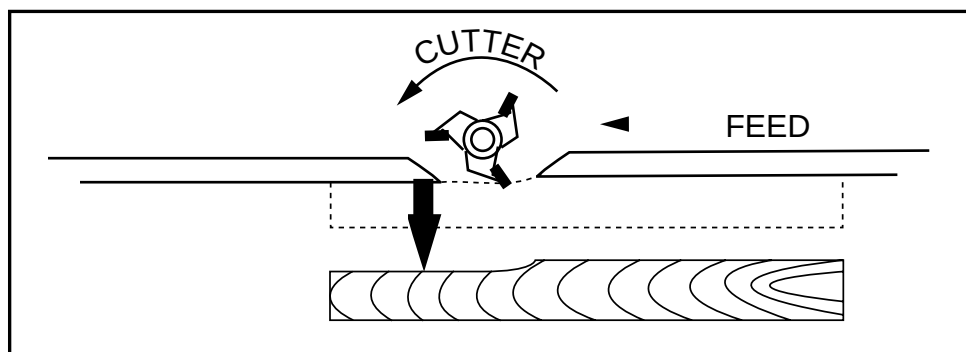

Figure 8
15. **STOCK FEED.** Always feed stock opposite the direction of the cutter rotation. For example, if the cutter rotation is counterclockwise, feed from right to left. **NEVER** back stock out of the cutter along the fence, once the cut has been started. Instead, pull the stock straight back, away from the fence and cutter and begin the cut again. See Figure 8.